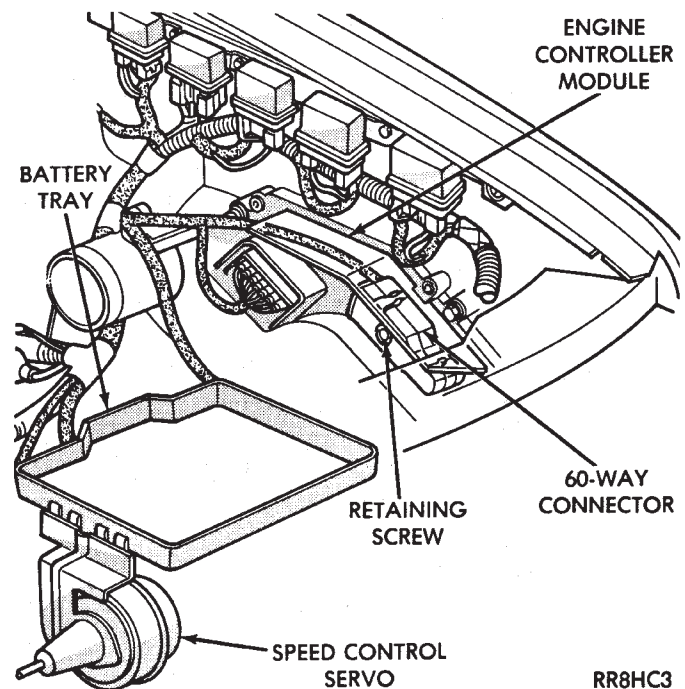
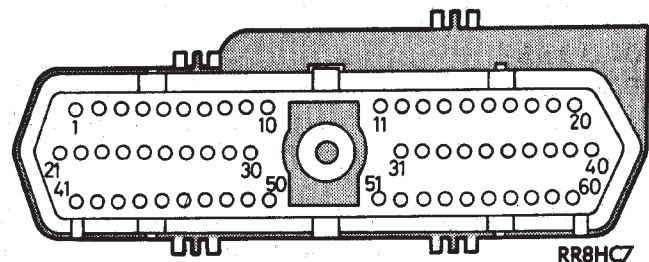

Fig. 7 Engine Controller and Connector Location
Fig. 8 Engine Controller 60-Way Connector Shown from Terminal End
(1) Unplug 60-way connector from the engine controller, located next to the battery (Fig. 7).
(2) Remove speed control switch. Refer to Speed Control Switch Removal. Disconnect the 4-way connector.
(3) Using an ohmmeter test continuity between pin 23 of engine controller and pin 4 of the speed control switch harness. Refer to Fig. 8 for controller terminal locations.